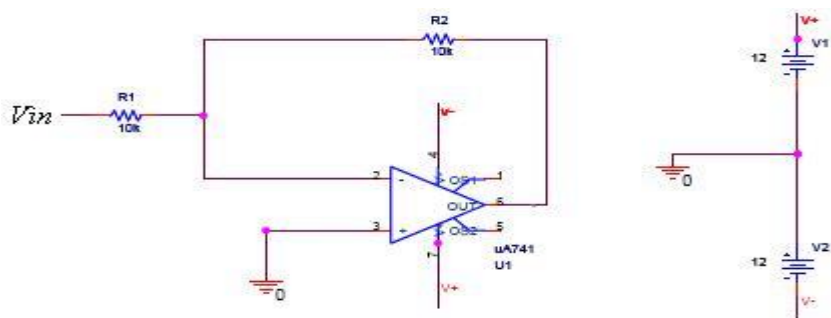

Fig. 2
- Implement the circuit in Fig. 2